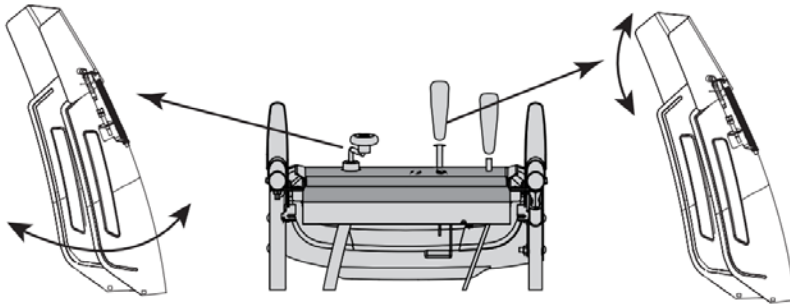
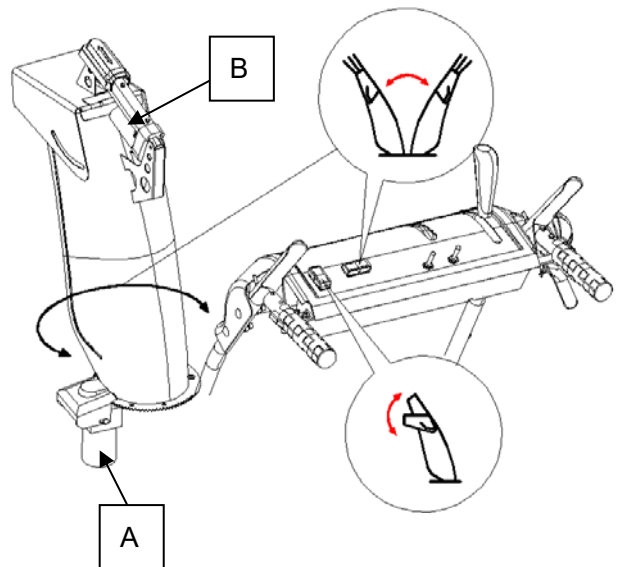

Figure 8
Figure 9
- 2) Before insert chute cap control cable end B (fig. 8) in position, release the two screws A (fig. 8). After assemble then tighten the two screws to fixing the cable. Through the cable into the guider A (fig.9).
Crank counterclockwise to discharge to the left. See Figure 8.
1. Press the chute rotation switch to the UP position and hold to rotate the chute to the left (See A, Figure 9)
1. Press the chute deflector switch to the UP position and hold to provide a higher stream and greater distance (See B, Figure 9)